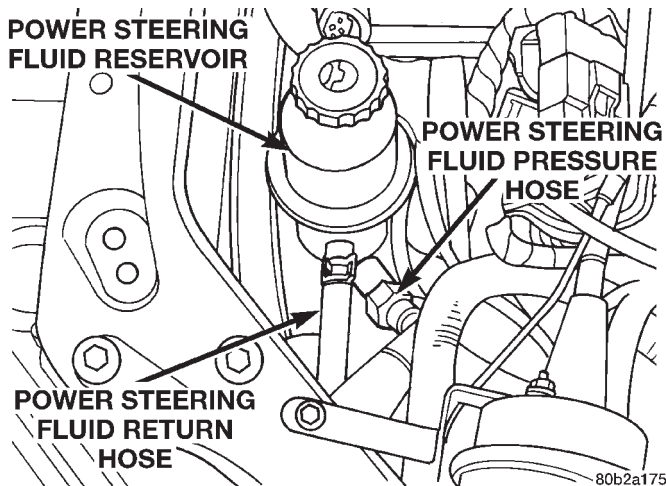

Fig. 4 Return Hose At Power Steering Fluid Reservoir
(3) Remove the power steering fluid return hose (Fig. 4) from the power steering fluid reservoir.